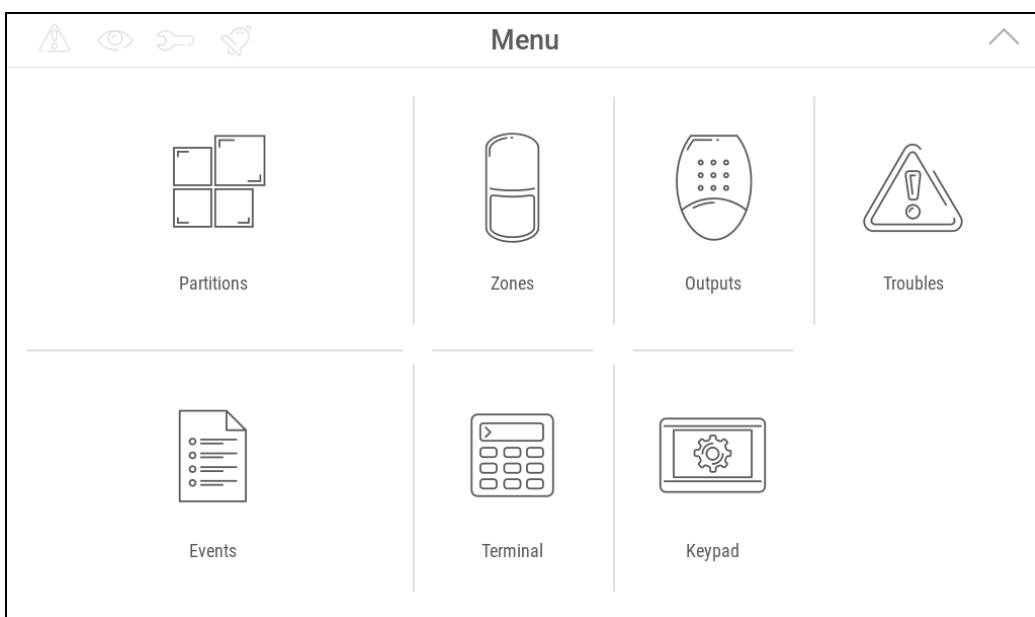

Fig. 14. User menu home screen.
3. Enter the service code (by default: 12345) and tap . The user menu home screen will be displayed (Fig. 14).